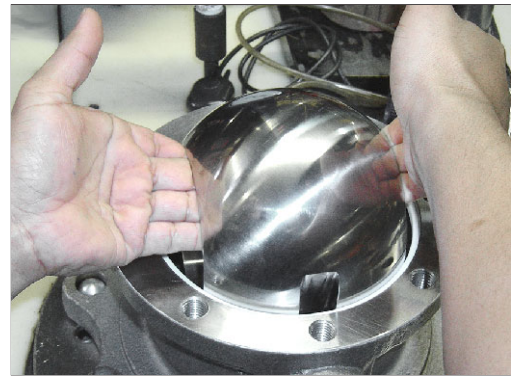

Figure 6 - Valve Ball Removal
2.1.6 Reach both hands into the valve body on either side of the valve ball. Lift the ball out of the body and set it on a padded surface (Fig. 6).